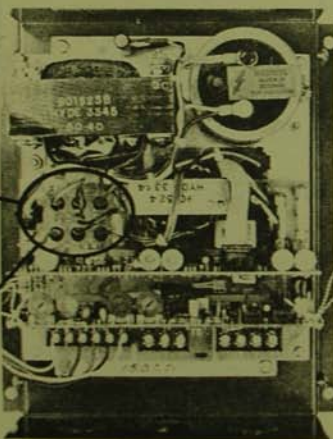

FIGURE 14
10.2 continued Input fuses blow on start-up	<p>10.2.1 continued Parametrics Technical Support for further troubleshooting assistance.</p> <p>10.2.2 If 150 ohms is measured on the ohmmeter in Section 10.2.1, refer to Figures 14 and 14A.</p> <p>Disconnect the six wires labeled A, B, C, D, E and F. Move these six wires aside, exposing the six connectors on the power module. With an ohmmeter, on the RX100 scale, measure from terminal A to terminal B of the power module (not the wires which were removed).</p> <p>Observe the reading, reverse the test probes and measure again. Reading should be infinite in both directions. If any other reading is indicated, replace the power module.</p> <p>If reading from terminal A to terminal B is correct, measure from terminal E to terminal F. Observe reading, reverse the test probes and measure again. Readings should be typical of a diode, infinity in one direction and approximately 500 ohms with the probes reversed. If any other reading is indicated, replace the power module.</p> <p>If readings from terminal E to terminal F are correct, measure from terminal A to terminal F and from terminal B to terminal F. Reading should be infinite in both directions. If readings other than infinite are observed, replace the power module.</p>
10.2 continued Input fuses blow on start-up	10.2.3 If above readings are observed, replace wire connections to terminals A, B, E and F (reference Figure 14). Do not connect the center green wires to terminals C and D at this time. Be sure these wires cannot touch any conductive surface. Replace blown input fuses and apply input power.
10.8.1 continued "Shear Pin" LED is illuminated. NO MOTOR CONNECTED TO TB3.	<p>10.8.1.3 continued reading should be infinite in both directions. Measure from terminal 2 to terminal 3 of TB3. Again reverse the leads and measure again. This measurement should also be infinite in both directions.</p> <p>If any combination of terminals measures a resistance other than infinite, be sure that AP6 has been disconnected, replace the transistor module as follows:</p> <ol style="list-style-type: none"> <li>Refer to Figure 16. Remove the plug-in Control Module, by grasping the plastic tie-wraps in each corner and pulling straight out.</li> <li>Remove the ribbon cable connected to AP1 on the driver module. Remove the plug-in driver module by grasping each corner firmly and pulling it straight out.</li> <li>Disconnect connectors AP4, AP5, AP6 and AP7 from the motherboard.</li> <li>Refer to Figure 14 and remove the six (6) Power Module connection wires.</li> <li>Remove any wires connected to TB1, TB2 and TB3.</li> <li>Remove input fuse F1 exposing a motherboard connection screw. Remove the 6-32 mounting screw along with the remaining 4 mounting screws. Remove the motherboard.</li> </ol>